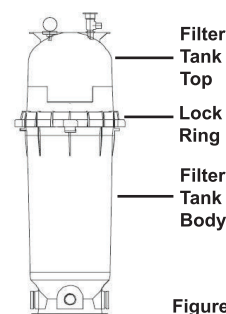

Figure 1.
2. Be certain the O-ring is in position in the lower tank half. Place the filter lid over the lower tank half, making sure it is fully and firmly seated on the tank half, see Figure 1.